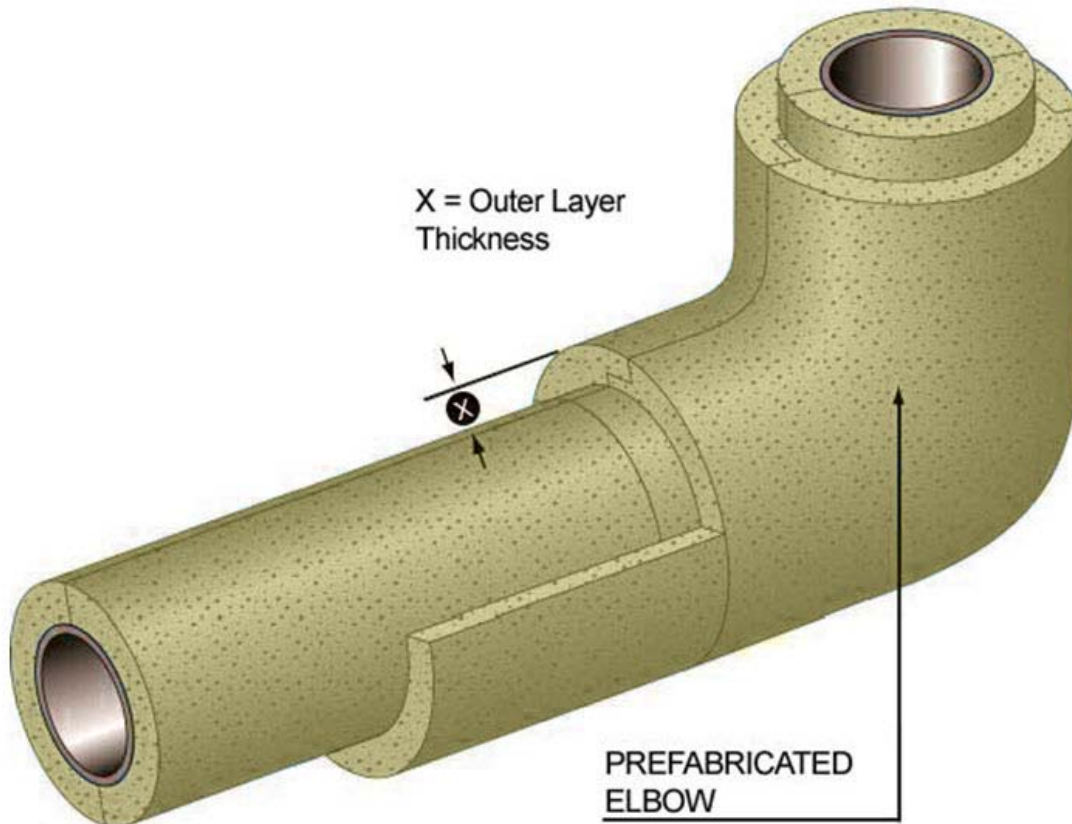

Figure 3
- 4.1.6 Install pre-fabricated insulation fittings on elbows, tees, and valves. Insulation shall be the same thickness as pipe sections and fabricated with shiplap ends and shiplap or tongue and groove longitudinal joints. Refer to Figure 3 in Appendix B